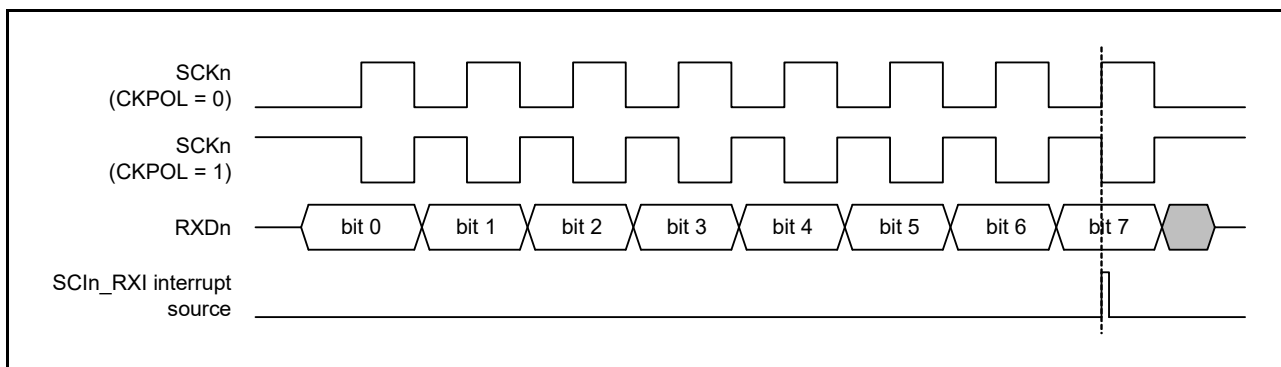

Figure 29.79 Timing of SCIn_RXI interrupt in simple SPI mode with clock delay
(1) Master mode
- For the clock delay setting (SPMR.CKPH bit is 1), the receive data full interrupt (SCIn_RXI) is generated before the final clock edge on the SCKn pin, as indicated in Figure 29.79. If the TE and RE bits in the SCR become 0 before the final edge of the clock signal on the SCKn pin, the SCKn pin is placed in the high-impedance state, so the width of the last clock pulse of the transfer clock is shortened. Additionally, an SCIn_RXI interrupt might lead to the input signal on the SSn pin of a connected slave going to the high level before the final edge of the clock signal on the SCKn pin, leading to incorrect operation of the slave.